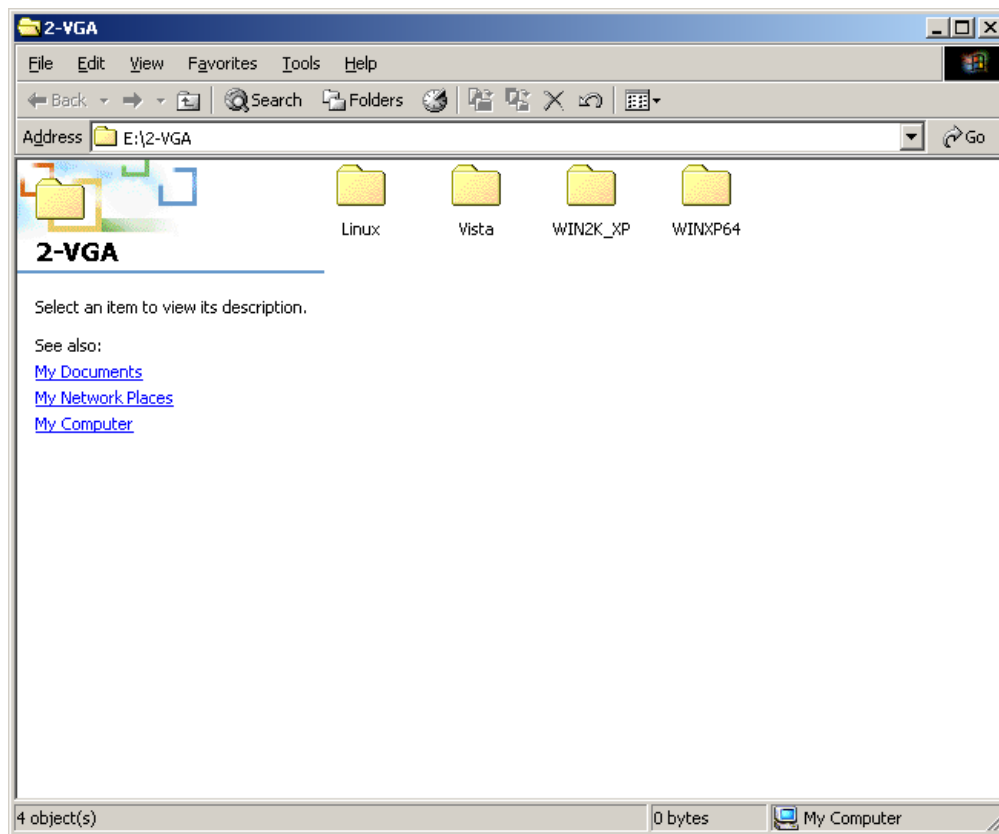

Figure 7-8: Select the Operating System
Step 2: A new window opens (**Figure 7-8**).
Step 3: Select the operating system from those shown in **Figure 7-8**.